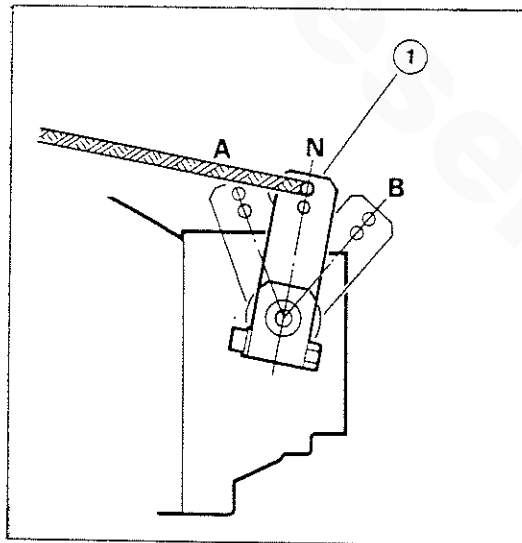

Figure IV-3
- When the engine runs at idle, (such as when charging the battery with the alternator), the shifting lever (figure IV-3, item 1) must be held in the neutral position (N) to prevent the boat from moving.